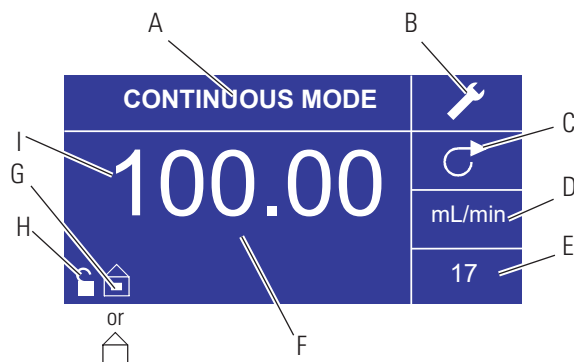

Figure 3-2. Continuous Mode Screen
- F. Current Flow Rate: The center digits show the flow rate of the drive in the unit of measure selected and shown to the right (see position D, Figure 3-2).